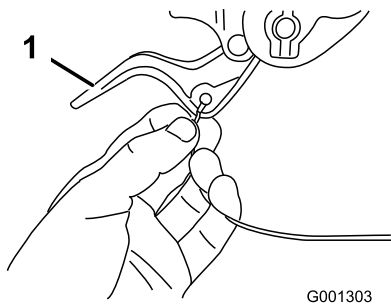

Figure 7
2. Route either the left or right cable end over the lower handle and insert the cable end into the hole in the corresponding wheel clutch lever (Figure 7).